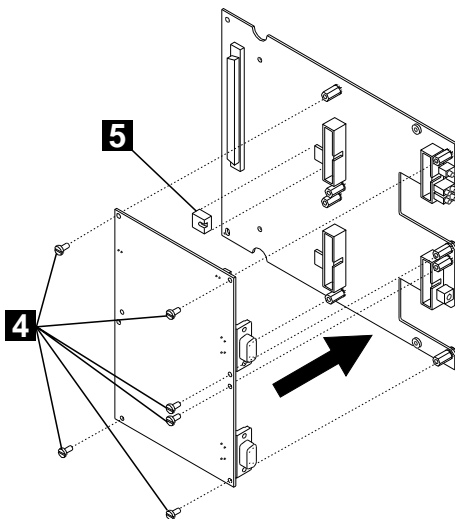

Figure 15. Attaching the I/O Card
- **5** Attach the I/O card to the motherboard using the six screws provided ( **4** in Figure 15).